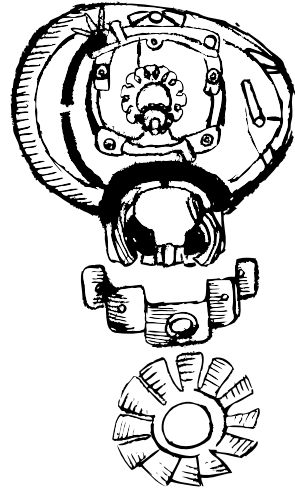

Figure 3.2 Parts Inside a Blender Base
6. After opening up your blender's base, get a sense of how the fan and motor are attached to the housing. In an Oster-brand blender, the lowermost component is the fan, then above that sits a bracket, the stator (or coil), the rotor, and another bracket. All are centered on a $\frac{1}{4}$ " metal shaft. Figure 3.2 illustrates the typical arrangement of parts within an Oster-brand blender base. In the next few steps you'll remove as much of the blender's interior as necessary to free the shaft for a coupling and extension. With this as the goal, you might need to remove only a fan on your blender, or you might need to remove virtually everything in the base.